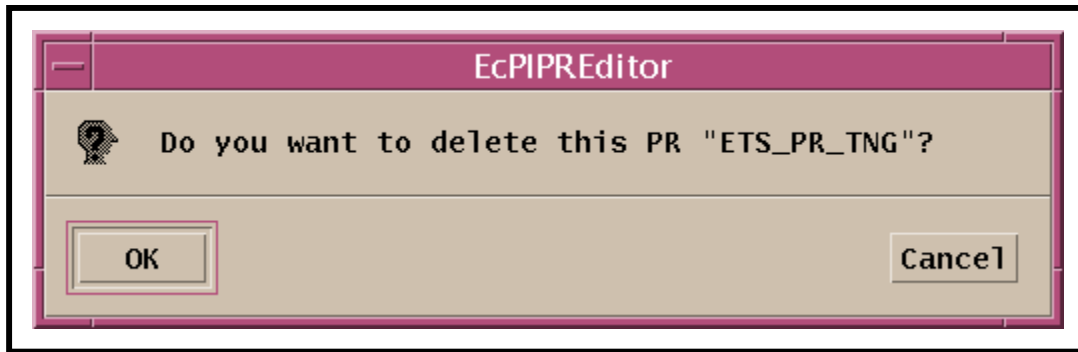

Figure 27. Production Request Deletion Confirmation Dialogue Box
- If there are no dependencies among Production Requests, a confirmation dialogue box similar to Figure 27 is displayed.